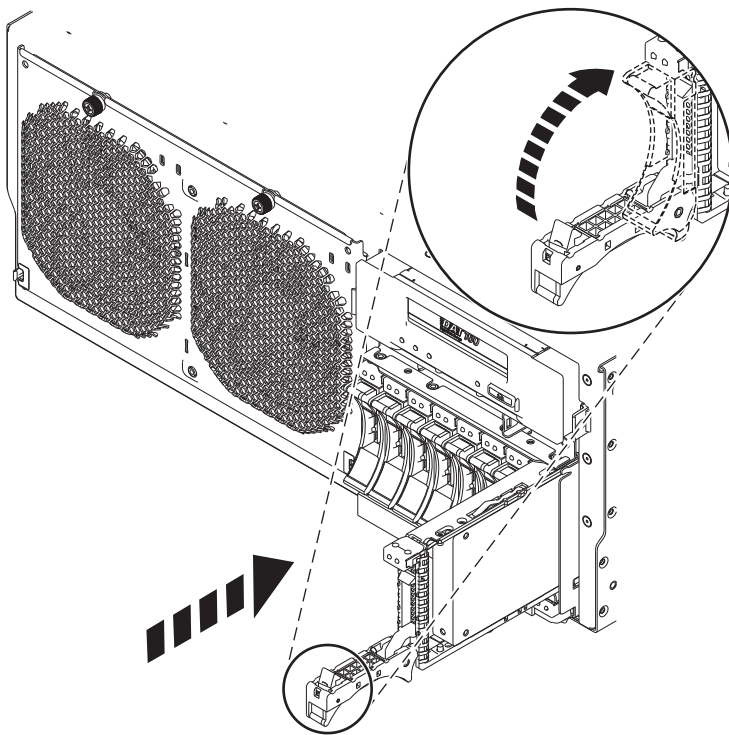

Figure 14. Installing the disk drive in the 8202-E4B, 8202-E4C, 8205-E6B, or 8205-E6C
9. Slide the disk drive all the way into the system or expansion unit, and push the disk drive handle (A) in until it locks, as shown in Figure 14.